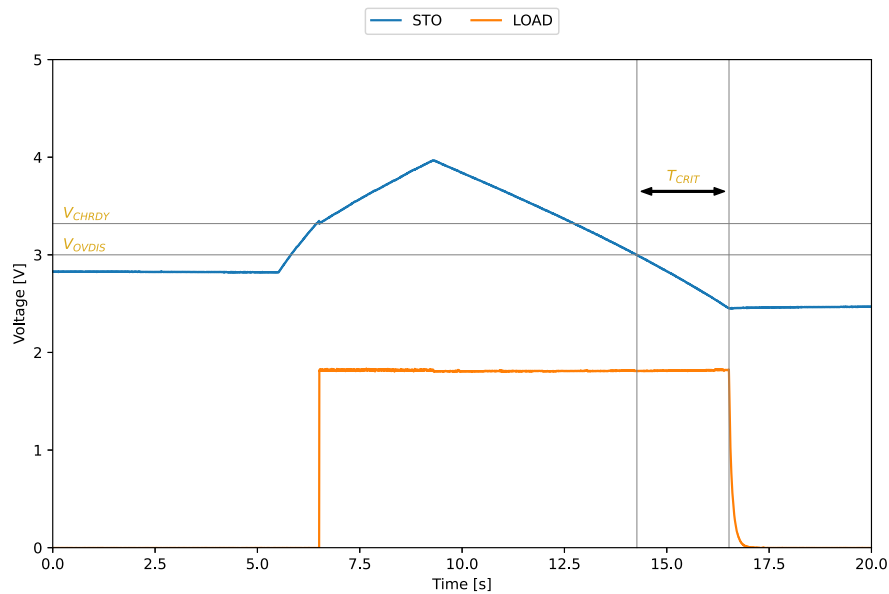

Figure 4: LOAD output behavior
- Disconnect the power supply or SMU from **SRCx** (done at about 9 s on Figure 4).
Please note that, in a real application, the storage element would be a battery or a supercapacitor, with much higher stored energy, so that V_{STO} would not drop as low as on Figure 4 during T_{CRIT} .